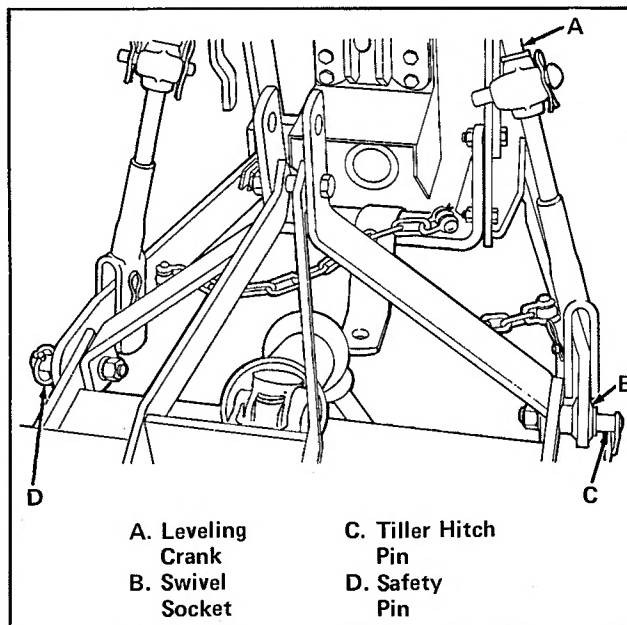

Figure 2. Attach Swivel Sockets
2. Back tractor into position in front of rotary tiller. Stop so swivel sockets (item B, figure 2) are aligned with tiller hitch pins (item C).
4. Remove safety pins (item D, figure 2) and slide swivel sockets (item B) off tiller hitch pins (item C).